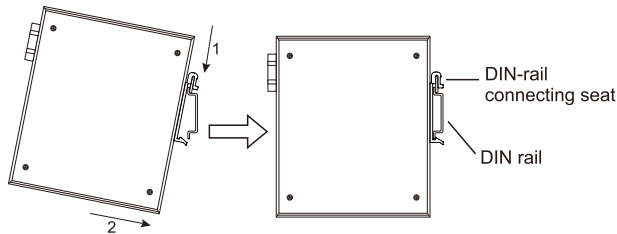

Figure 3 DIN Rail Mounting
Step 2: Insert the upper connecting seat of equipment into the top of the DIN rail, and push the top of the device inward and downward to ensure the DIN rail fits in the connecting seat, as shown in the left of Figure 3. Make sure that equipment is firmly installed on the DIN rail, as shown in the right of Figure 3.